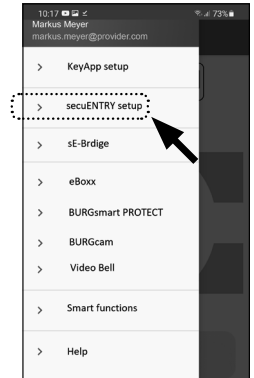

Fig. 64
- 2 Tap on the menu item "secuENTRY setup" (Fig. 64).